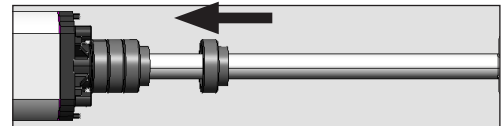

Fig. 14
14. If an opening mechanical stop on the ground is not installed, spacers can be used (Fig. 1 Ref. 7). Remove the front articulated joint and insert on the rod the number of spacers required to reach the desired opening angle (Fig. 14).